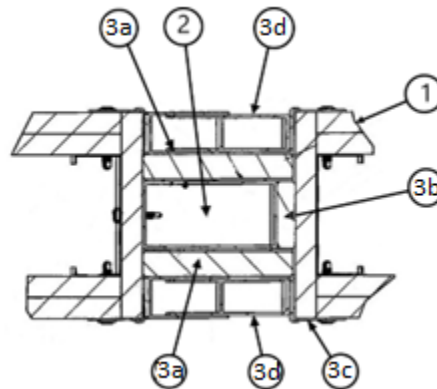

Figure 1. Joint Cross Section
2. ALUMINUM EXTRUSION: Use a continuous length of 2 in. deep rectangular aluminum tube with minimum 0.125 in. wall thickness. See Table 2 for width. The width shall be sized to create a 1/2 in. wide space between the aluminum extrusion and the adjacent wall. Fasten the extrusion to the supporting construction framing as shown in Figure 1 using minimum No. 10 screws spaced maximum 12 in. on center (oc).
D. Mullion Mate® PRO, FR: Install continuous length of spring-loaded expandable units on both sides of the joint as shown in Figure 1. Remove paper backing from the adhesive strips on the sides and expand the units into place per the manufacturer's installation instructions.